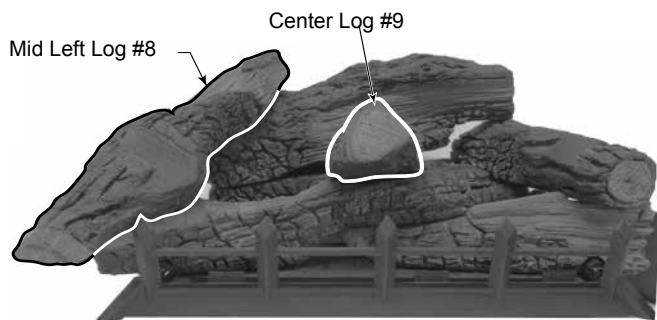

Figure 6.23 - Log #8 & #9 Placement
- Place mid left log (#8) on mid rear log (#7) and front bottom log (#5) by placing notches on bottom of log onto locating blocks on log #7 and log #5. See Figure 6.23.
- Place center log (#9) onto front bottom left log (#5) by placing notch on bottom of log #9 onto locating block on log #5. The flat triangle-shaped end of log #9 should be towards front with pointed end of log resting on bottom rear log (#1). See Figure 6.23.